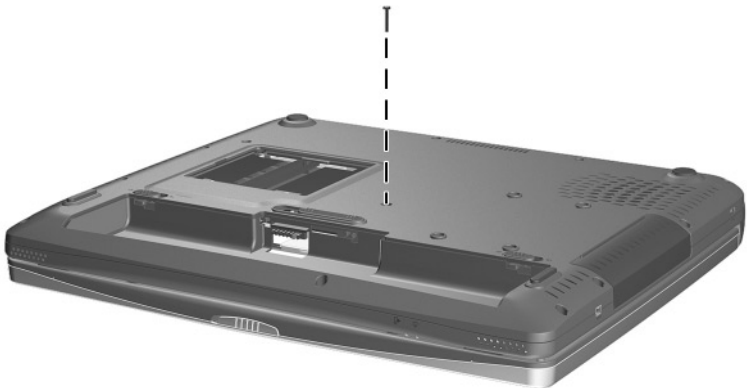

Figure 5-12. Removing the Keyboard Screw
4. Remove the TM2.5 × 16.0 screw that secures the keyboard to the base enclosure (Figure 5-12).